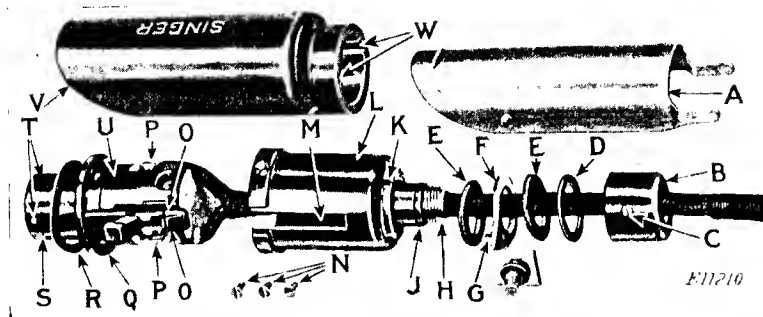

FIG. 5. SHOWING SCREW CONNECTIONS OF SINGERLIGHT
Singerlight. Disconnect the Singerlight leads from pins Nos. 1 and 3 of the three-pin terminal. Draw the reflector (A, Fig. 5)
from Singerlight shade (V). Turn the shade until the pins (T) on Singerlight lamp socket (S) reach the slots (W) on the inside of Singerlight shade base, and draw the shade from the lamp socket. Loosen screw (C) in Singerlight nipple cap (B), and unscrew the nipple cap. Draw the nipple cap (B) along the leads and away from the Singerlight shell (L) as shown in Fig. 5. Remove the three screws (N) which fasten the shell (L) to the lamp socket body (U), and draw the shell (L), fibre washer (D), Singerlight bracket (F) and the two felt washers (E), along the leads and away from the lamp socket body (U) as shown in Fig. 5.
When reassembling, push the shell (L) tight against the flange (Q) of the lamp socket body (U) and with the slot (M) engaged by the grooves (O) in the cover plate. Insert and tighten the three screws (N). Put the felt washers, bracket and fibre washer on the screw nipple bushing (J) and against the base of the shell (L) in the following order and as indicated in Fig. 5:
Before replacing Singerlight shade (V) and reflector (A), be sure to have the spring washer (R) on the lamp socket (S), as shown in Fig. 5.
NOTE—The essential difference between the latest type Singerlight (covered by the foregoing description and shown in Fig. 5) and the previous type, is that the older type of Singerlight is arranged with the switch handle at the top instead of, as at present, with the handle at the bottom. Another difference is that the bracket pin (G), of the previous type Singerlight, engages one of four notches in the nipple cap (B) instead of notch (K) in the shell, as shown in Fig. 5.